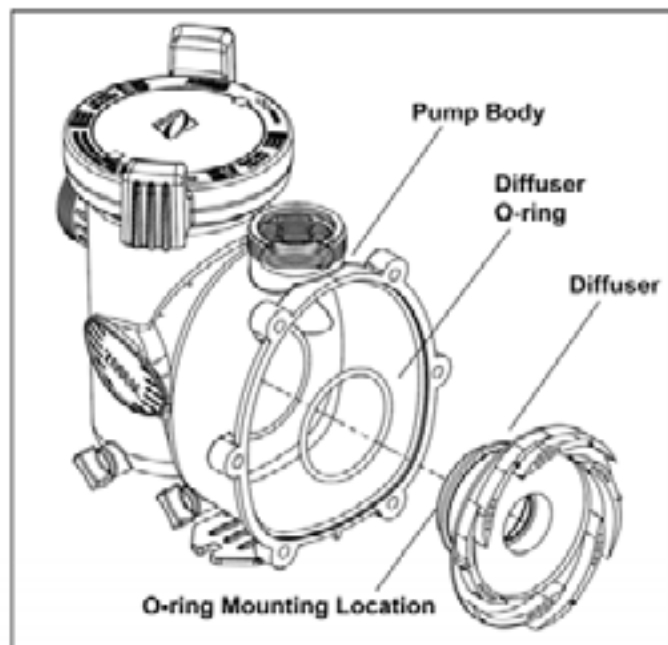

Figure 12. Pump Body and Diffuser Exploded View
4. Replace the diffuser over the impeller, using care to insert alignment pins into the correct holes. The alignment pins in the diffuser only allows the diffuser to be inserted only one (1) way.
5. Replace the two (2) small Phillips-head screws. Tighten the screws to draw the diffuser against the motor backplate.
6. Make sure the diffuser o-ring, o-ring groove, and o-ring seal area are clean and free of debris, which could cause a leak. If you removed the diffuser o-ring during disassembly, re-install it on the diffuser, as shown in Figure 12. If grease is used to retain the diffuser o-ring, it **must be silicone based**. Do not use petroleum-based grease. It will destroy the o-ring.